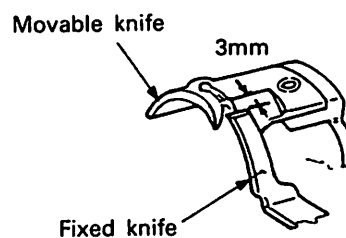

Fig. 13
- 1) The knife engagement pressure is standard if the movable knife begins to make contact with the fixed knife at the position shown in Fig. 13.
- 3) To adjust the pressure, loosen the lock nut ② and turn the adjust screw ①.